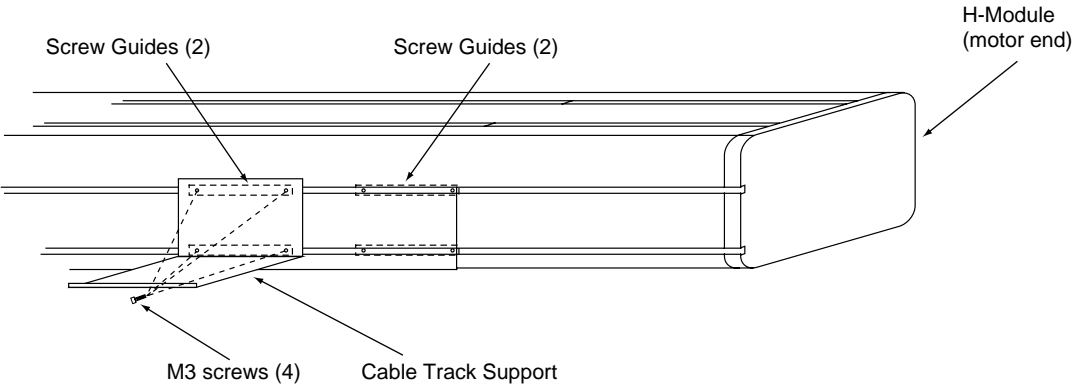

Figure 6-3. Cable Track Supports
- 2. Align the cable Track Supports for the cable track with the screw guides and attach using four M3 screws. Leave the screws loose for later adjustment (see Figure 6-3).